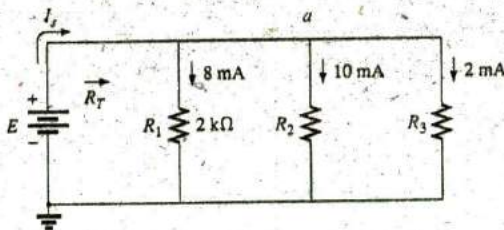
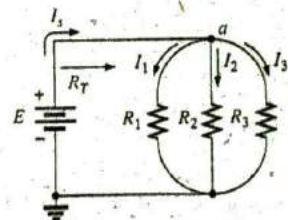

FIG. 6.35
FIG. 6.36
EXAMPLE 6.19 For the parallel dc network in Fig. 6.35:
- First apply Eq. (6.13) at node a . Although node a in Fig. 6.35 may not initially appear as a single junction, it can be redrawn as shown in Fig. 6.36, where it is clearly a common point for all the branches.
Redrawn network in Fig. 6.35.